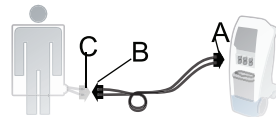

Figure 1 -
- Connect the hose (A) to the controller hose connection port (Figure 1).